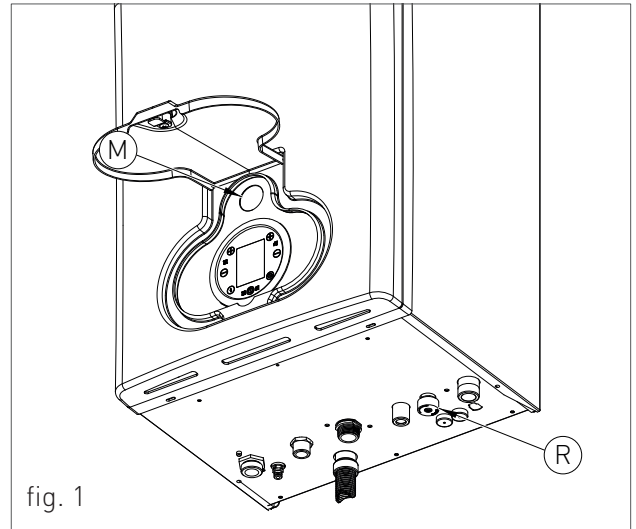
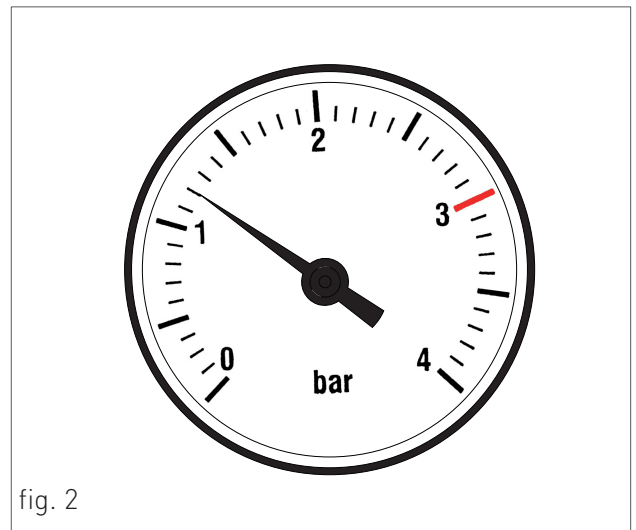

fig. 1
fig. 2
18. FLAME PRESENCE SIGNALLING / IT ALSO INDICATES, ON 3 PERCENTAGE LEVELS, THE DEGREE OF BOILER MODULATING POWER (fig.2)
To restore the water pressure inside the system open the loading tap "R" (fig. 1) and make sure using pressure gauge "M" (fig. 1), that the system pressure reaches 1.2 bar (see fig. 2).
After performing this operation, make sure that the loading tap "R" (fig. 1) is properly closed.